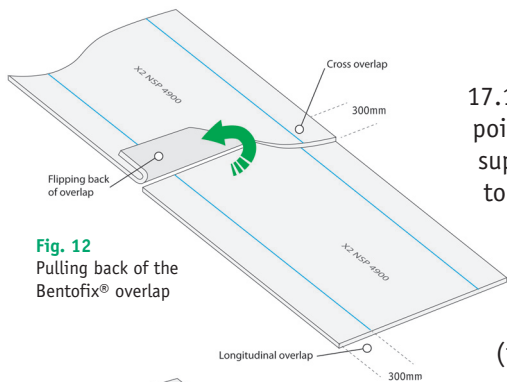

Fig. 12
17.11.1 To have a reference point for the placement of supplemental bentonite, the top side of the underlying Bentofix® roll should be marked. The overlapping Bentofix® may then be flipped back (fig. 12).